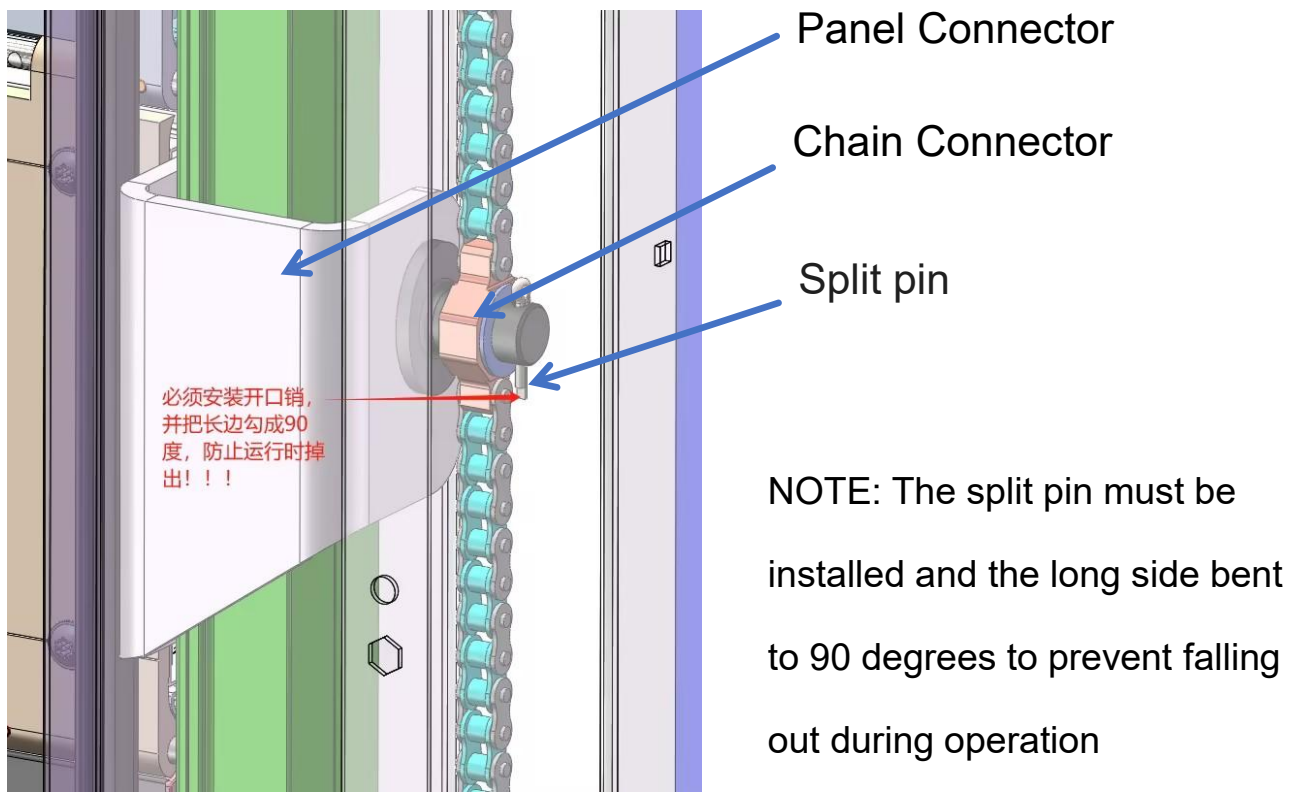

Figure 3-3
3.3.2 Fix the chain connecting plate with the door panel connector. Fasten with M10\*20 bolts. As shown in Figure 3-3. (at this time, the bottom chain wheel and foot plate are not fixed temporarily)